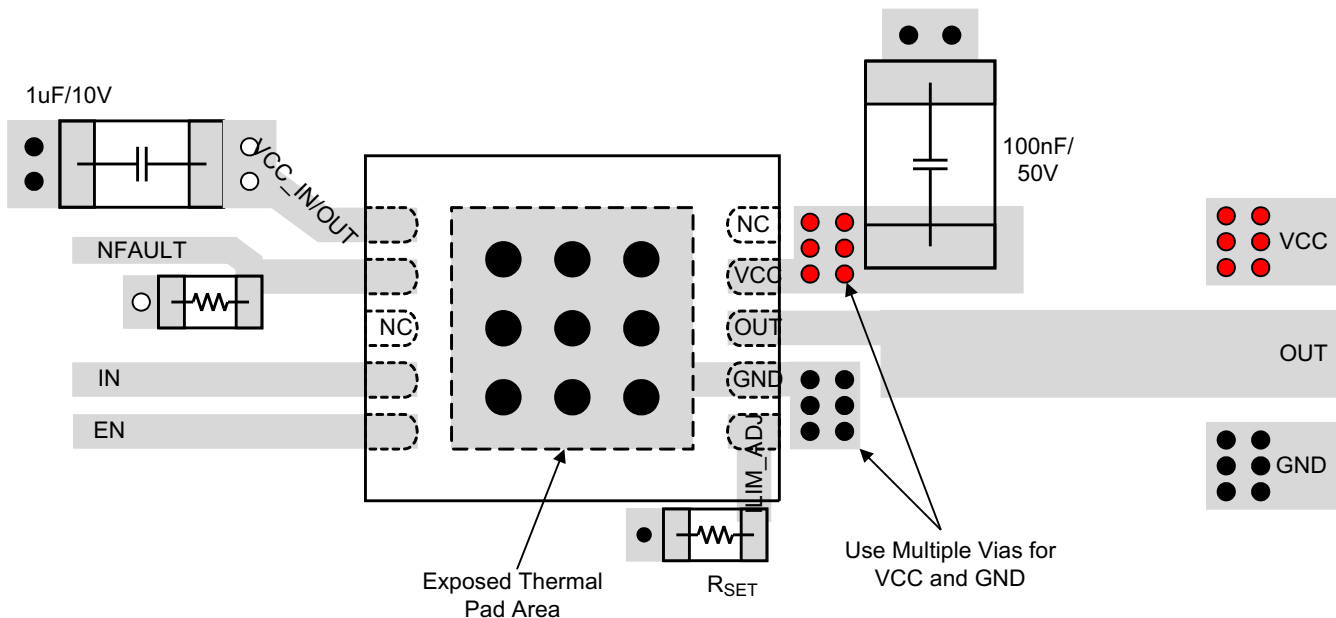

图 11-1. Layout Example
- • The optimum placement of the capacitor is closest to the VCC and GND terminals to reduce supply drops during large supply current loads. See Figure 11-1 for a PCB layout example.